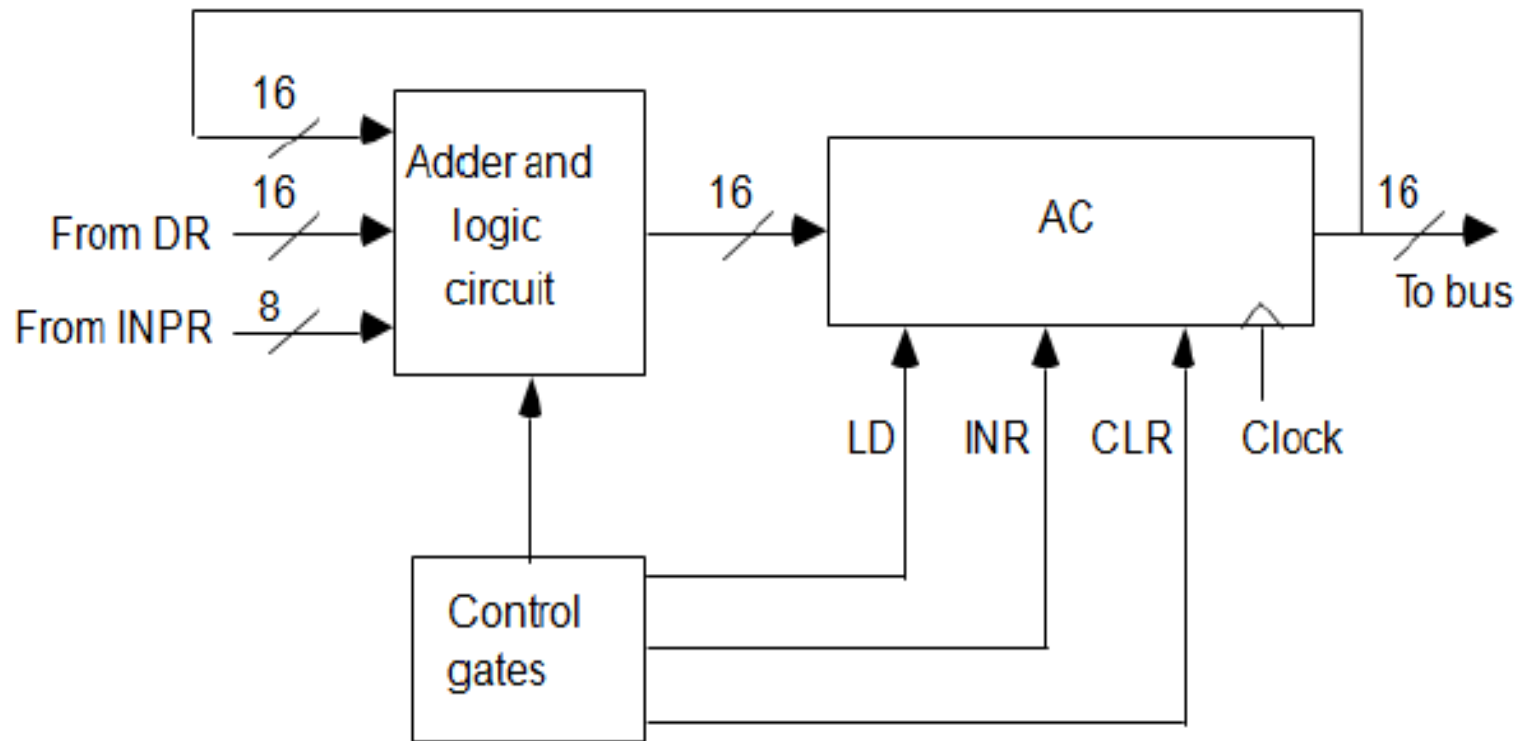

Figure 2.16: Circuits associated with AC
- The circuits associated with the AC register are shown in figure 2.16.